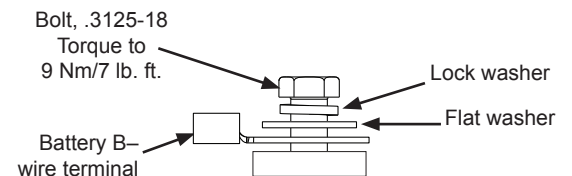

Figure 3: B- Terminal Hardware Stacking Order
6. Connect vehicle B- cable to alternator B- terminal. Install B- hardware in stacking order shown in Figure 3. Torque to 9 Nm/7 lb. ft.